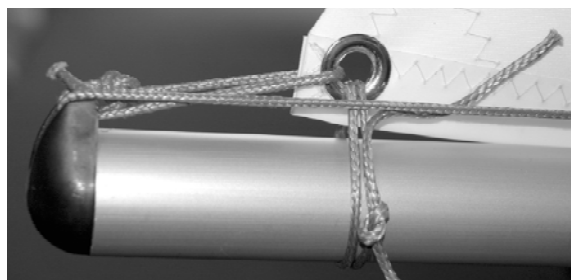

Figure: 39
2. Lead the free end of the line through the grommet in the sail and back through the boom end cap (Figure 39). Continue the line forward down the boom to the aft most boom cleat.